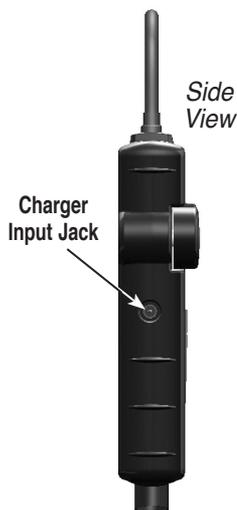

Figure 3
2. Plug the AC adapter (included with the TIF8800X) into an appropriate wall outlet, and connect the charger jack to the charge input on the tool. See Figure 3.